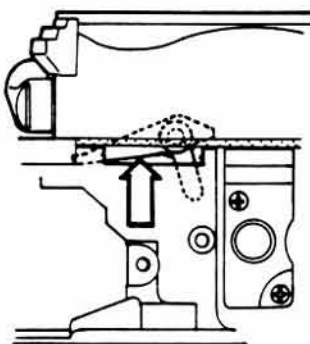

Fig. 14
- * The shutter can be released by pushing the lever in the arrow direction in Fig. 14.